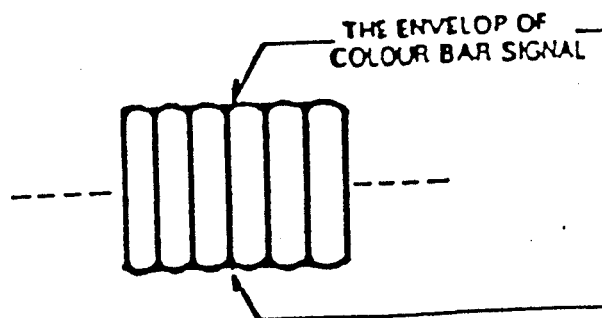

Fig.8 SECAM Color Bar Signal
- 3) Adjust L207 to make the envelop of colour bar signal into flat response as shown in Fig 8.